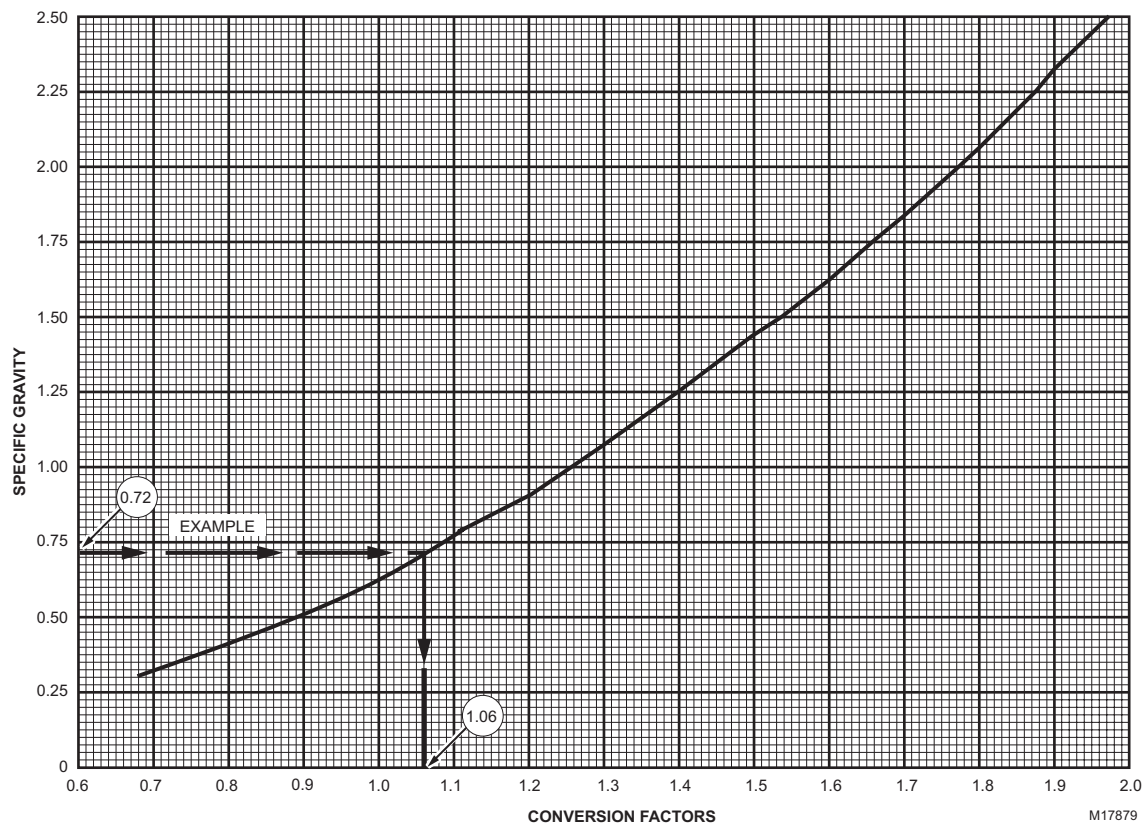

Fig. 3. Specific gravity conversion factors.
4. For gases with specific gravities other than 0.64, correct the cfh from the nameplate or from the formula in step 3 for the specific gravity of gas used, following the information in Fig. 3.
How to use the Specific Gravity Conversion Factors (Fig. 3)
Listed valve capacity ratings are based on 0.64 specific gravity (sg gr) gas. When the required cfh capacity is known for gas of other specific gravity, it can be converted to the 0.64 equivalent by using the correct multiplying factor obtained from Fig. 3.
On the vertical scale of Fig. 3, find 0.72 specific gravity (left side of figure). Draw a line horizontally from that point to the right to intersect the curve, then move straight down the chart to the bottom scale and read the conversion factor (1.06, in this example).